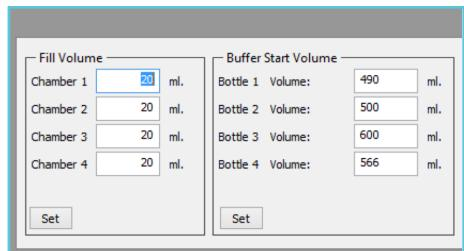

Figure 26
Step 3: Make sure that the 'Fill volume' which is in the Chamber Volume Settings sub-menu under 'Setup' is set to 20ml (figure 26).